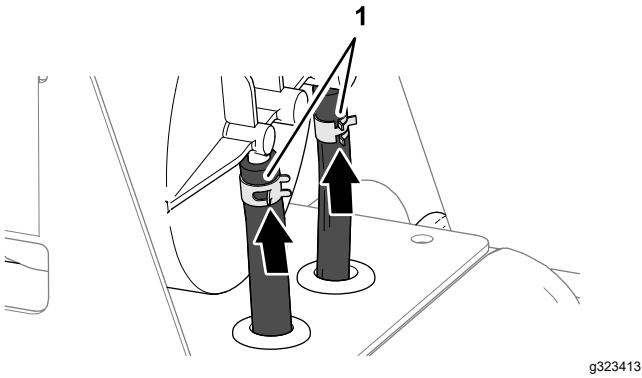

Figure 125
4. Secure the hoses to the fittings with the clamps (Figure 125)